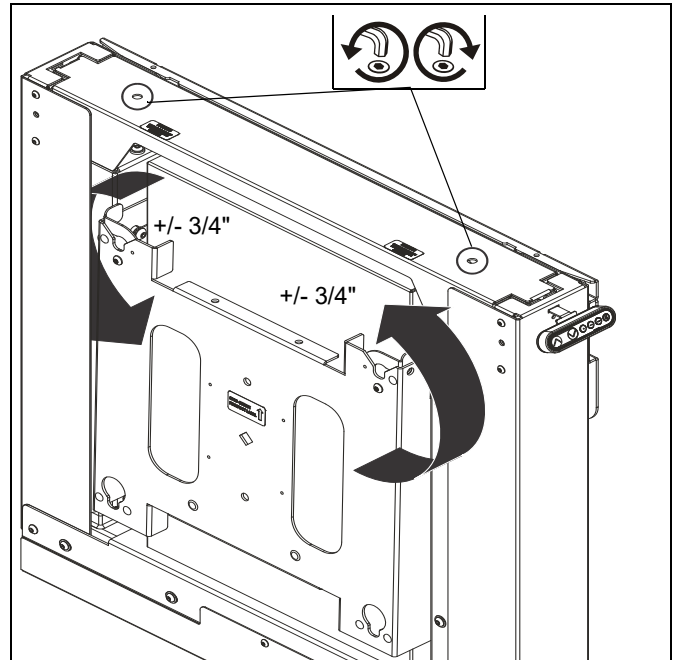

Figure 40
1. Adjust leveling adjustment screws through access holes to level mount as desired +/- 3/4". (See Figure 40)